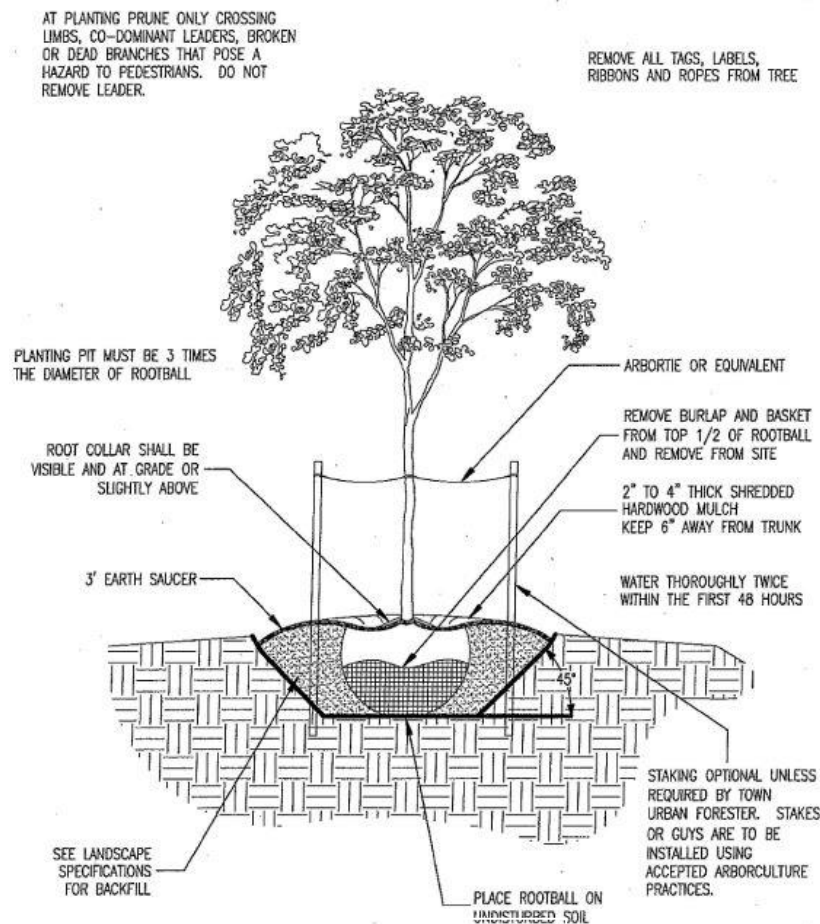

Figure 1. Proper plant installation procedure.
- _____ Mulch bed is 2-4 inches deep. Near, but not touching, the trunk (see Figures 1 & 2) per ANSI A300.
- _____ Plantings are established at the correct depth and width—root flare is exposed (Figures 1 & 2) per ANSI A300.
- _____ Burlap and at least 1/2 of the wire basket are removed (if used) per ANSI A300.6 (see Figure 1).